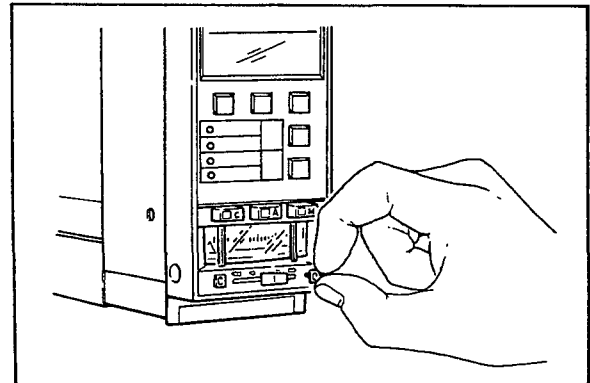

Figure 5-3-9. Mounting Control Valve Action Labels.
(2) Mounting control valve action labels (Figure 5-3-9).